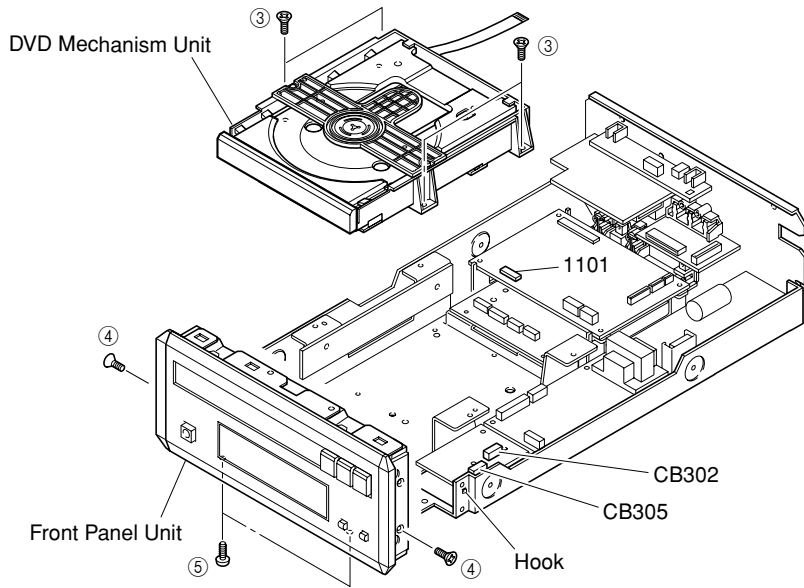

Fig. 2
- a. Remove 4 screws (③). (Fig. 2)
- b. Remove a connectors (1101, CB302, CB305). (Fig. 2)
- a. Remove 2 screws (④), 2 screws (⑤). (Fig. 2)
- c. Release 2 hooks and remove the Front Panel Unit by pulling it forward. (Fig. 2)